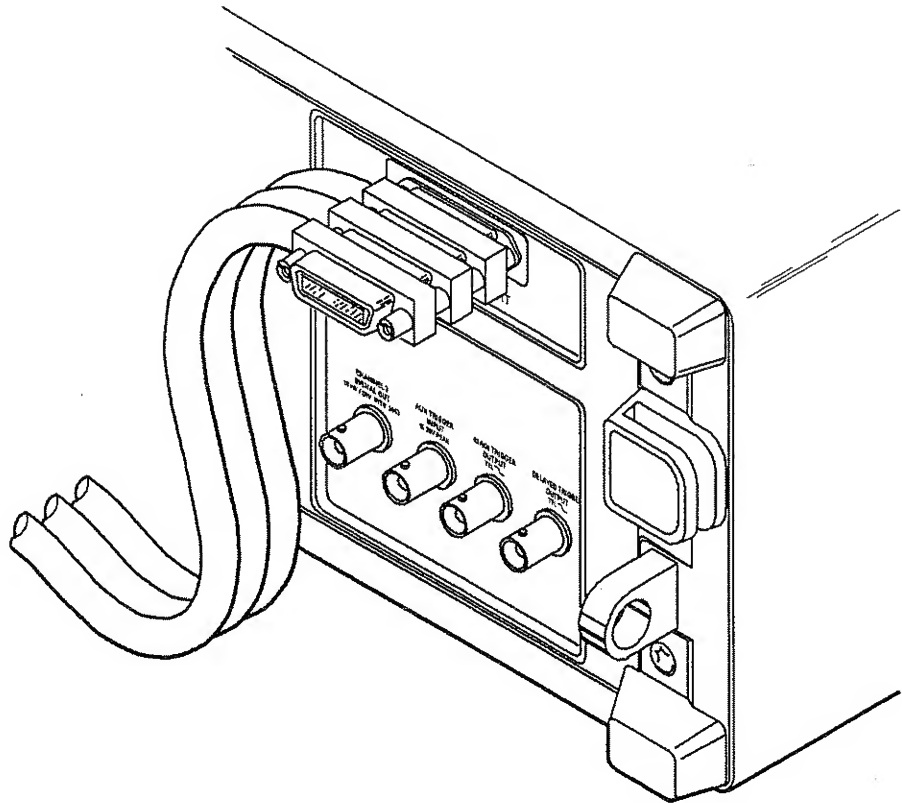

Figure 2-25: Stacking GPIB Connectors
**Connector** — A 24-pin GPIB connector is located on the oscilloscope (on the rear panel). The connector has a D-type shell and conforms to IEEE Std 488.1-1987. You can stack GPIB connectors on top of each other as shown in Figure 2-25.